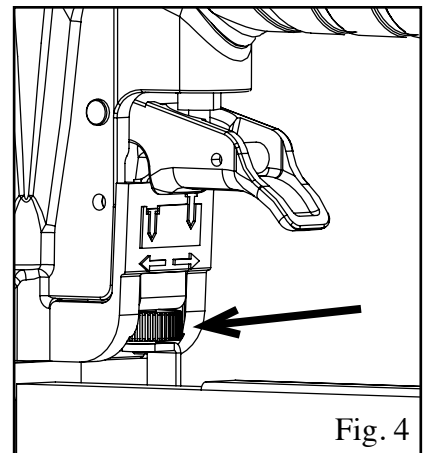

Fig. 4
Use the Depth Adjustment Wheel (Fig. 4) found directly underneath the trigger to adjust the depth of the fired nails. Turn the wheel to the left for deeper nails, or turn to the right for shallower nails.
1. Turn the depth adjustment wheel (Fig. 4) to set the depth of the fired nail. For flooring, it is suggested to always fire at the deepest depth.